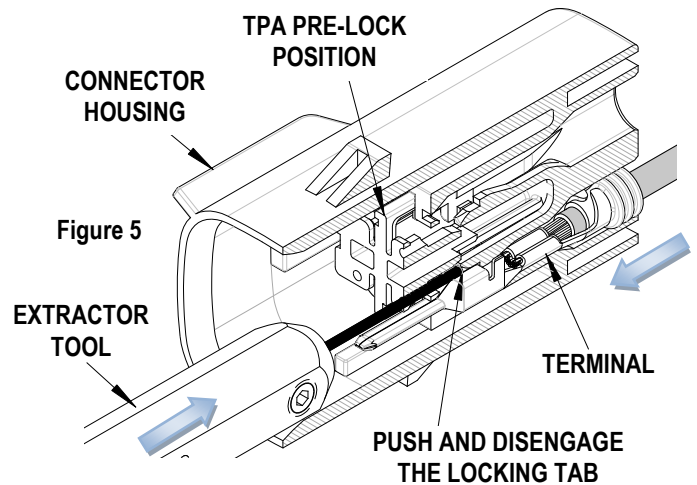

Figure 5
1. Push the terminal forward in the arrow direction before using the Extractor Tool. See Figure 5.